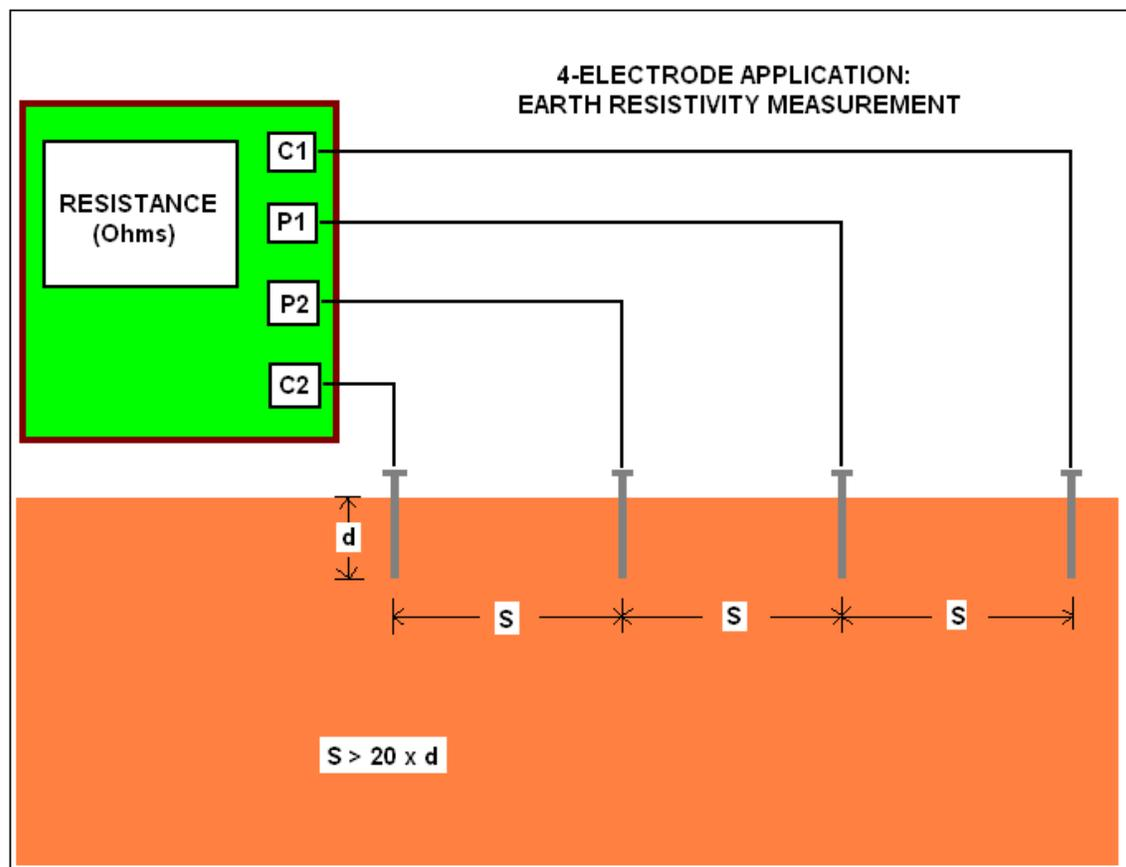

Figure 1
This application uses 4 electrodes (4 soil pins). The electrodes are driven down into the earth the same distance and are evenly spaced in a straight line. A schematic of this arrangement is illustrated in Figure 1 below.
With the arrangement shown in Figure 1, the resistance meter effectively measures the earth's average resistance to a depth equal to the electrode (soil pin) spacing (S). For a fully-extended standard Test Reel, S would be 20 feet, for example.